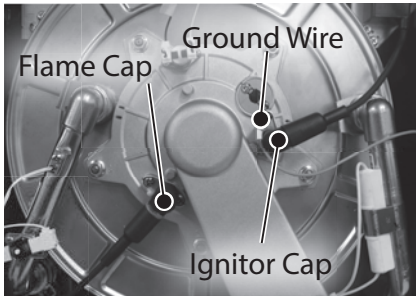

Figure 111 - Remove ignitor rod and flame sensor caps
- 12** Locate the flame sensor and ignitor rod on the burner assembly as shown in Figure 111. Remove the caps from the flame sensor and ignitor rod. Disconnect the green ground wire from the ignitor rod.